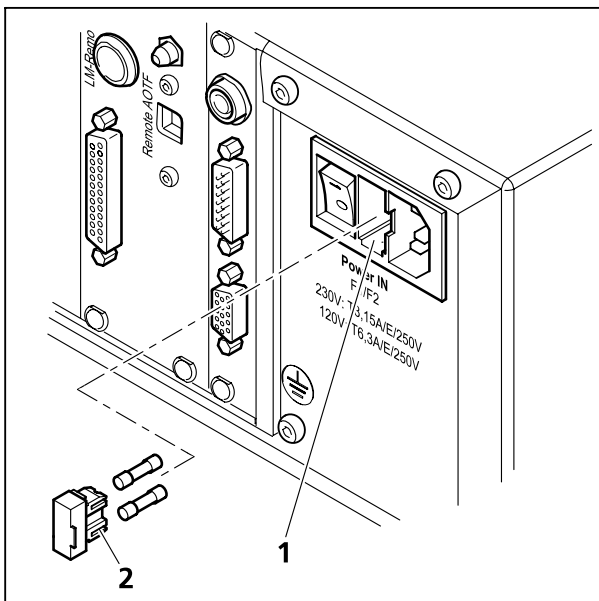

Fig. 5-2 Replacement of fuses in multi laser module
- Pull fuse holder (Fig. 5-2/2) out from the front. Use a small screwdriver for convenience.
- Insert fuse holder into the fuse compartment (Fig. 5-2/1) until mechanical stop position.